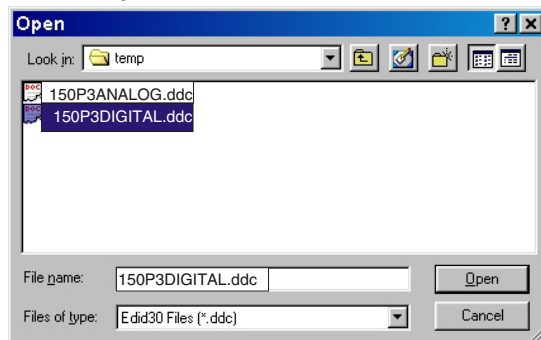

Fig. 24
2. Select the file you want to open as shown in Fig. 24.